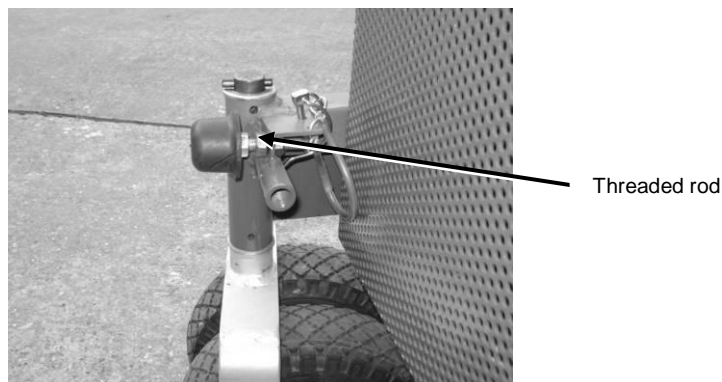

Fig. 70: Bin support
9. Adjust the rubber buffer (see Fig. 70).